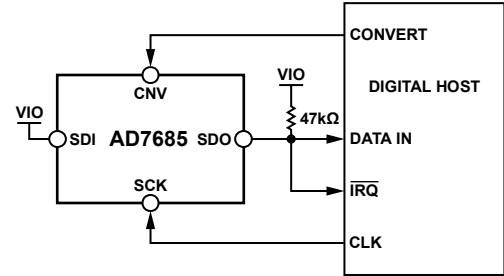
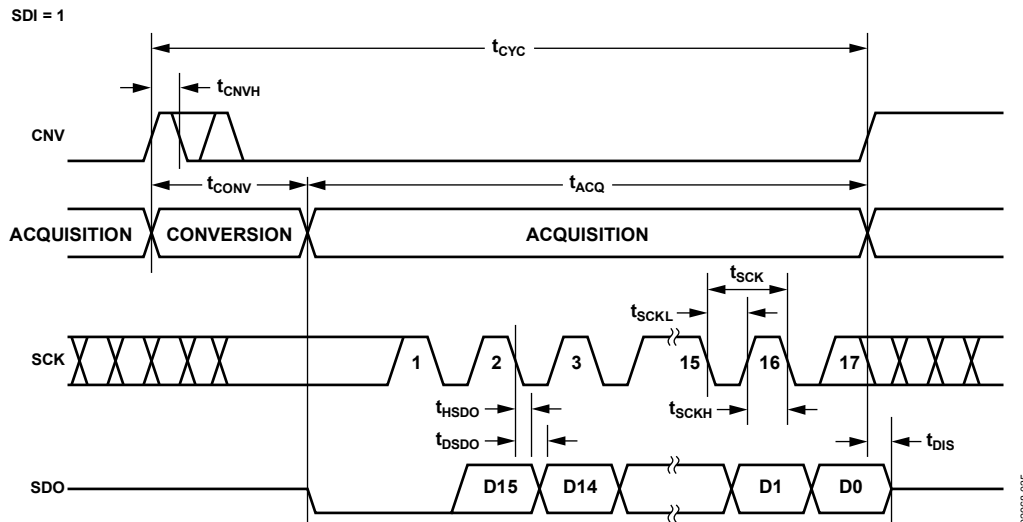
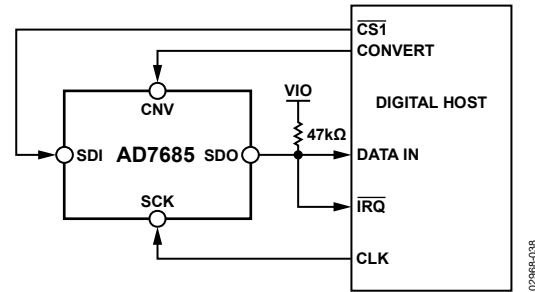
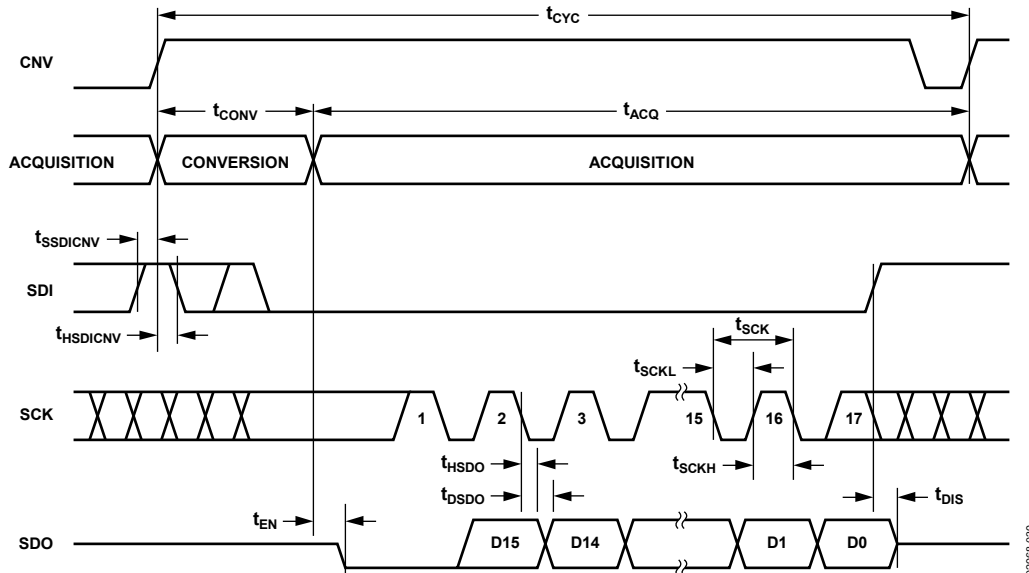

Figure 36. $\overline{\text{CS}}$ Mode 3-Wire with BUSY Indicator Connection Diagram (SDI High)
Figure 37. $\overline{\text{CS}}$ Mode 3-Wire with BUSY Indicator Serial Interface Timing (SDI High)
Figure 40. CS Mode 4-Wire with BUSY Indicator Connection Diagram
Figure 41. CS Mode 4-Wire with BUSY Indicator Serial Interface Timing
- In the $\overline{\text{CS}}$ mode, if $\overline{\text{CNV}}$ or SDI is low when the ADC conversion ends (see Figure 37 and Figure 41).
The connection diagram is shown in Figure 36, and the corresponding timing is given in Figure 37.
The connection diagram is shown in Figure 40, and the corresponding timing is given in Figure 41.